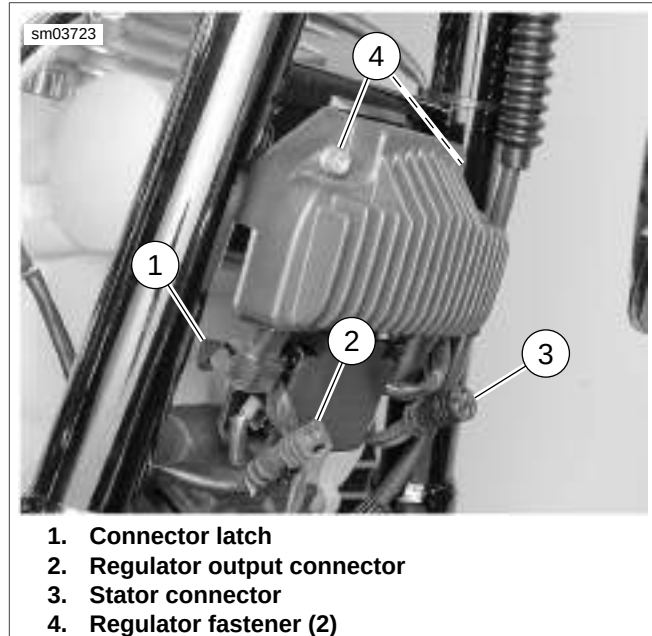

Figure 7-8. Voltage Regulator
2. See Figure 7-8. Release latches (1) from each connector.
3. Disconnect stator connector (3) and regulator output connector (2).
4. Remove voltage regulator fasteners (4).
1. See Figure 7-8. Install voltage regulator into position and install voltage regulator fasteners (4). Tighten fasteners to 60-80 in-lbs (6.8-9.0 Nm).
2. Connect voltage regulator output connector (2).
3. Connect stator connector (3).
4. Secure latches (1) on both connectors.